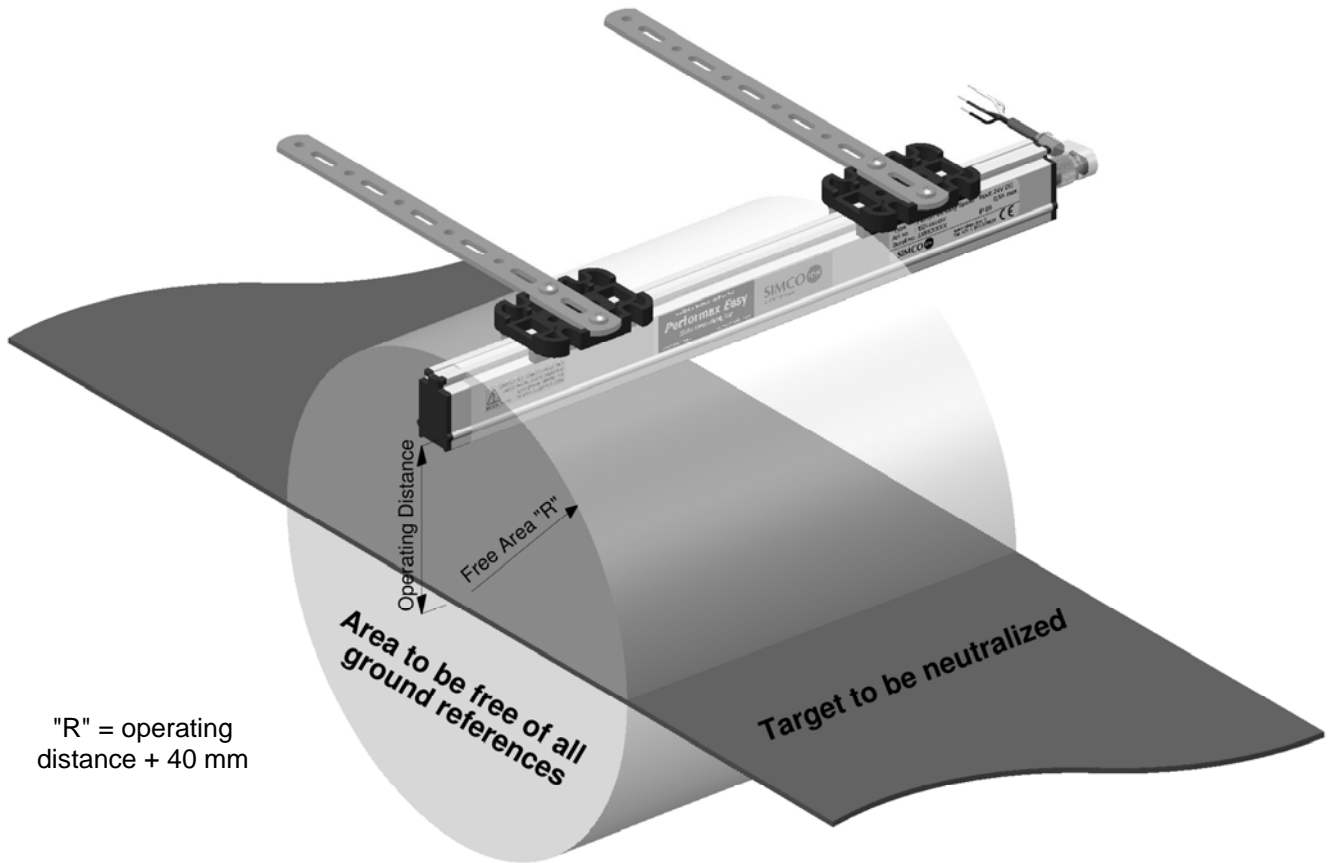

Figure 3: Optimum position of the Performax Easy and Performax Easy Speed
- **For optimum results, the anti-static bar must be fitted as per Figure 3.**
- Attach the anti-static bar using the fasteners supplied. See Figures 3 and 4.